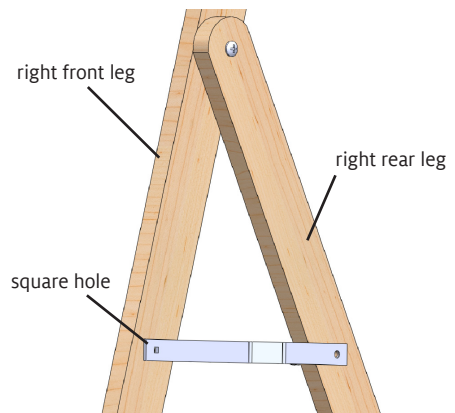

FIGURE 3: ORIENT FOLD-UP SUPPORTS
3. Orient (but do not attach) the fold-up supports as shown in Figure 3, with the square hole at the front leg and the support angling outward to the rear leg.